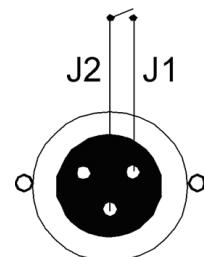

Figure 1-3. External Interlock Connector (Revolution Power Supply)
The remote interlock connector at the back of the power supply cabinet (marked INTERLOCK) must be used to connect an external CDRH interlock (such as a switch on the door to the laser room). The interlock circuit will then terminate laser action automatically if the door is opened to the laser operating area. To connect the interlock switch, remove the supplied external jumper plug, and either re-wire according to the wiring diagram in Figure 1-3, or use a similar connector. Wire the external interlock switch normally closed, such that if the door or safety device and the switch opens, the power supply will immediately turn the laser diodes off. This is a safety precaution to prevent any unaware personnel from inadvertent exposure to laser radiation.
- Verify that removing the user interlock connector on the back panel of the power supply prevents laser operation. Figure 1-3 shows the interlock with the jumper plug in place.